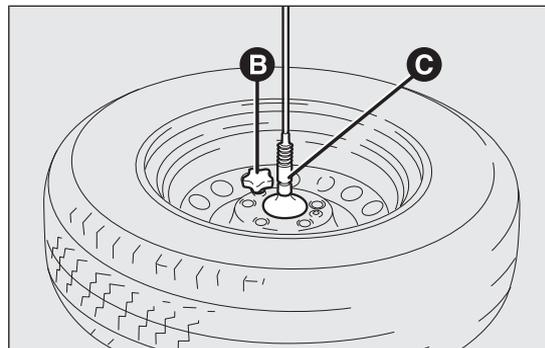

fig. 119
- remove the cap B fig. 119 and release the strap, when free the wheel from the toothed support C by loosen the two screws;